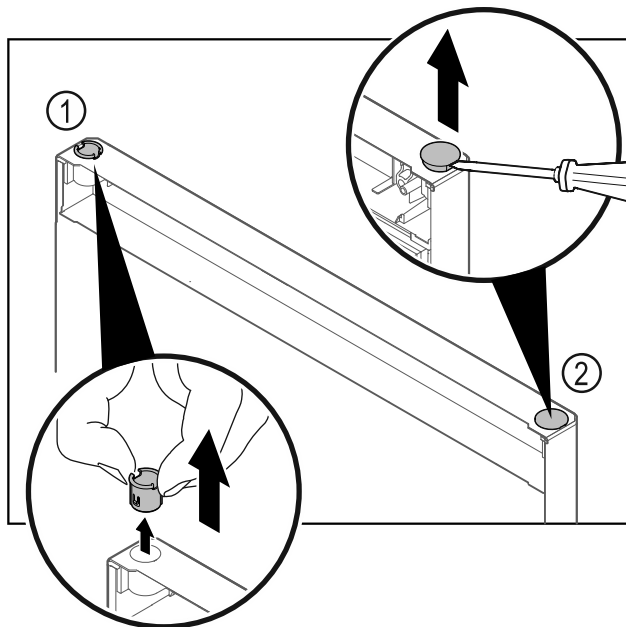

Fig. 20
- Pull out the hinge bushing Fig. 20 (1) with your fingers.
- Carefully lift the cover plug Fig. 20 (2) with a slotted screwdriver and pull it out.